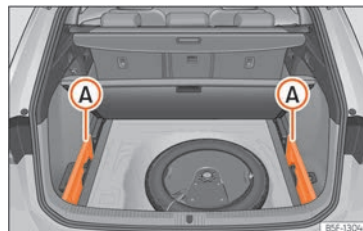

Fig. 130 In the luggage compartment: space to store the retractable shelf.
- Remove the left and right covers »» Fig. 130 ① A.